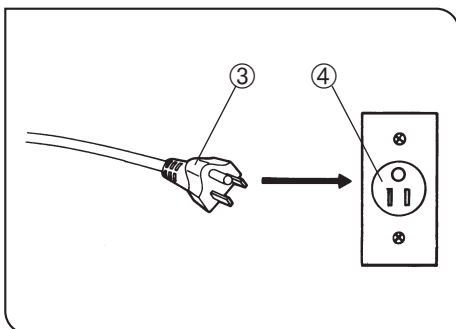

Fig. 10
2. Plug the power cord plug ③ into the wall outlet ④ (Fig. 10).